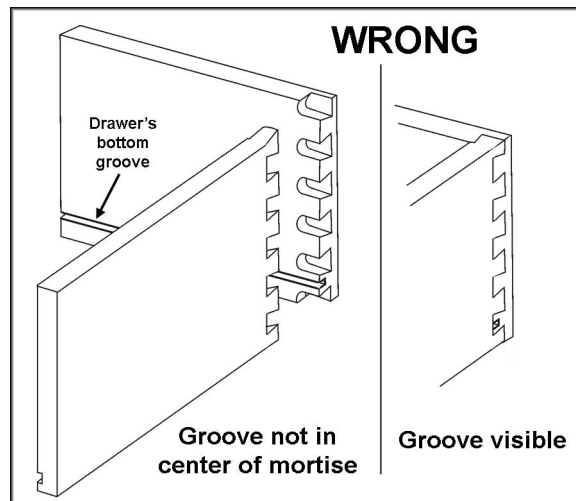

Figure 20
8. As noted, the position of the horizontal fence will affect the position of the vertical fence. Therefore, if you are making a drawer that has a bottom groove, the vertical fence should be set so that the bottom groove in the drawer piece to be tenoned will go through the center of a tail. That means the bottom groove of the mortised piece will go through the center of a mortise. This will prevent the groove from being visible on the outside of the assembled drawer. See Figures 20 and 21.